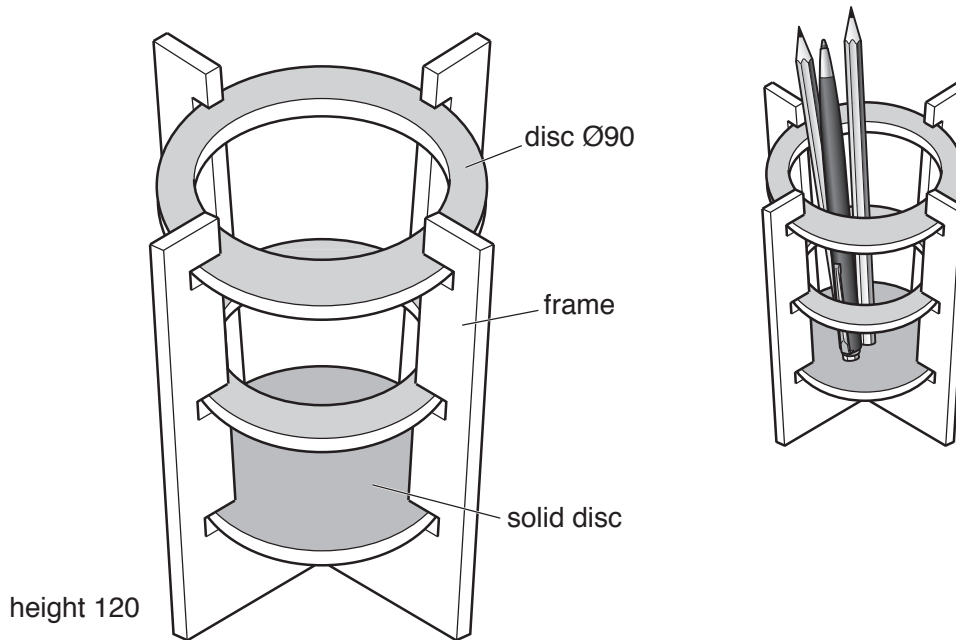

Fig. 12
- 11 Fig. 12 shows a desk tidy made from 4 mm thick plywood. The desk tidy will be batch produced in quantity.